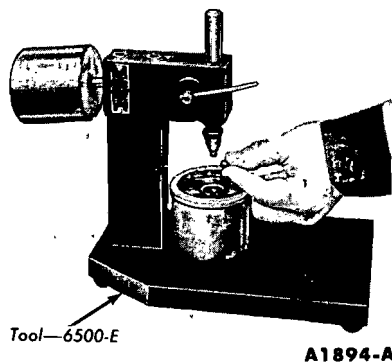

FIG. 5—Placing Steel Ball in Valve Lifter Plunger
3. Place a 5/16-inch steel ball in the plunger cup (Fig. 5).